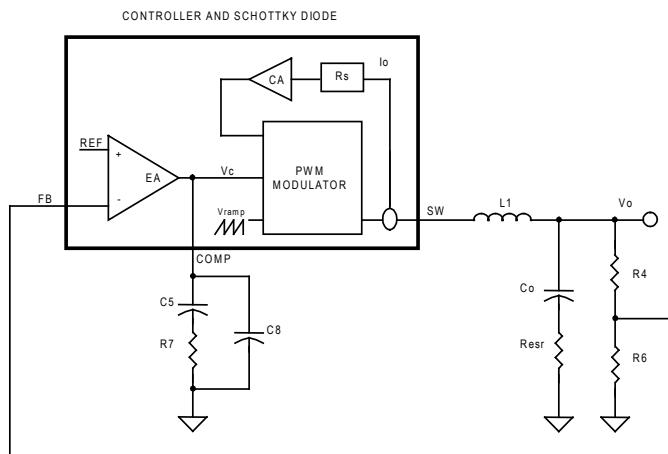

Figure 7 — Block diagram of control loops
The block diagram in Figure 7 shows the control loops of a buck converter with the SC4524D. The inner loop (current loop) consists of a current sensing resistor ($R_s = 5.5m\Omega$) and a current amplifier (CA) with gain ($G_{CA} = 18.5$). The outer loop (voltage loop) consists of an error amplifier (EA), a PWM modulator, and a LC filter.
For a converter with switching frequency F_{sw} , output inductance L_1 , output capacitance C_o and loading R , the control (V_c) to output (V_o) transfer function in Figure 7 is given by: